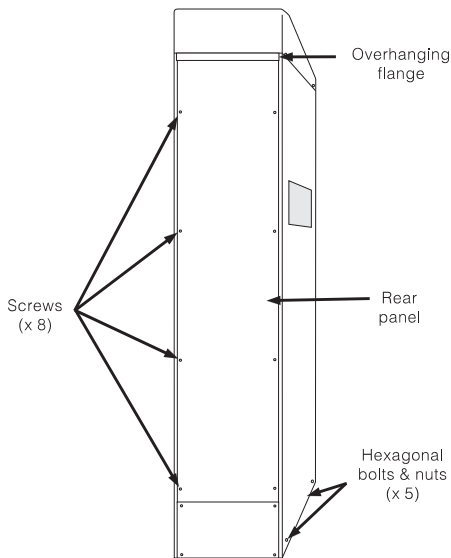

Figure 2.
1. Remove the eight Phillips (crosspoint) screws from the rear panel of the speaker post as shown in Figure 2. Pull the rear panel away
10. Refer to Figure 2. Replace the rear panel of the speaker post by sliding it upward, under the overhanging flange near the top-rear of the speaker post. Fasten the panel in place and install the eight enclosed security screws through the holes in the panel into the speaker post.